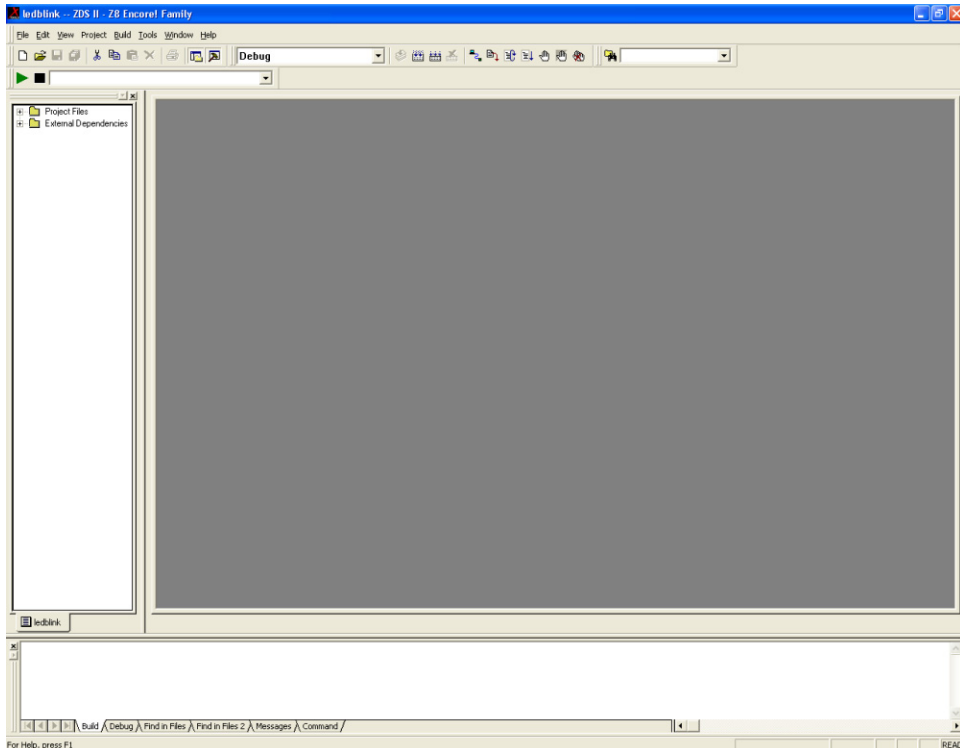

Figure 3. ZDS II Opening Screen
6. Select the ledblink.zdsproj file and click **Open**. The initial ZDS II program screen appears (see Figure 3 on page 10).